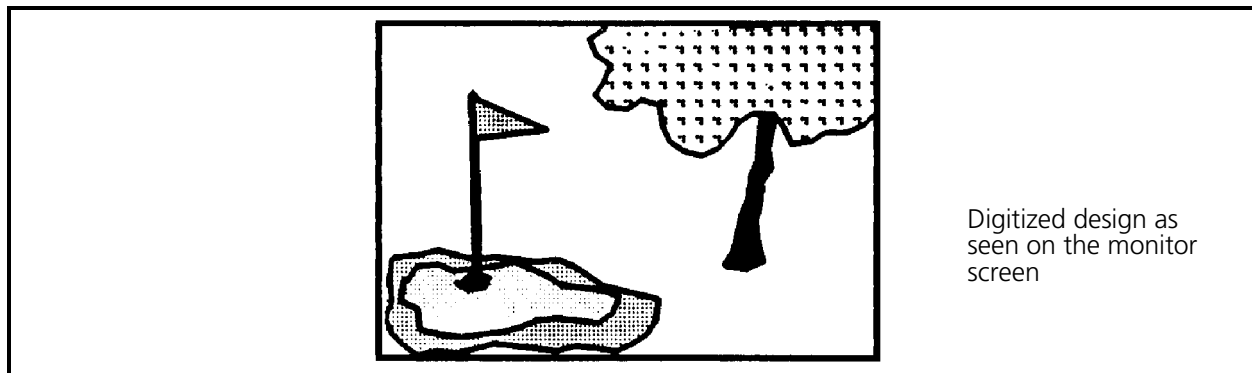

Figure 5-12
- After the set horizontal function is completed, when you digitize your design the horizontal orientation of the design will align with the "A-B" line you indicated (see Figure 5-12).